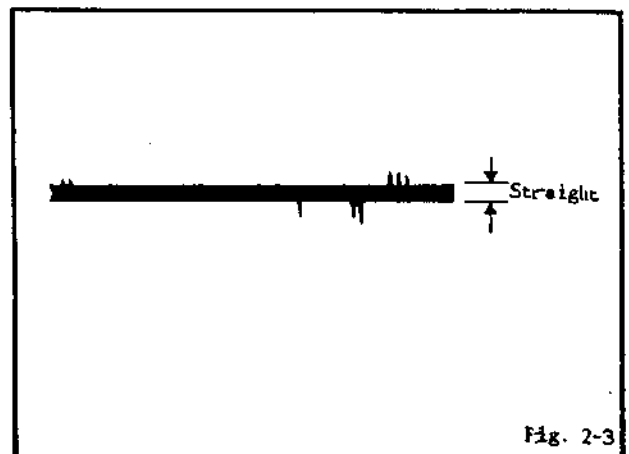

Fig. 2-3
5. Adjust VR7015 so that the waveform of CH-1 is straight as shown in Fig. 2-3.